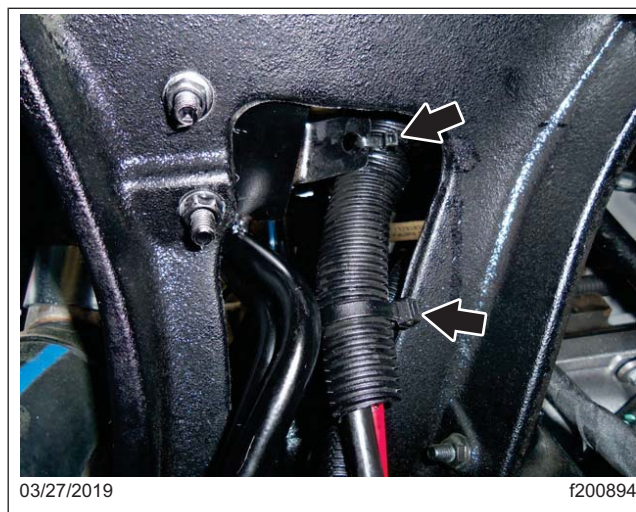

Fig. 6, Secure the brake lines to the New Hard Lines
14. Using a tie strap, secure the brake lines to the new hard lines to avoid rubbing. See Fig. 6.